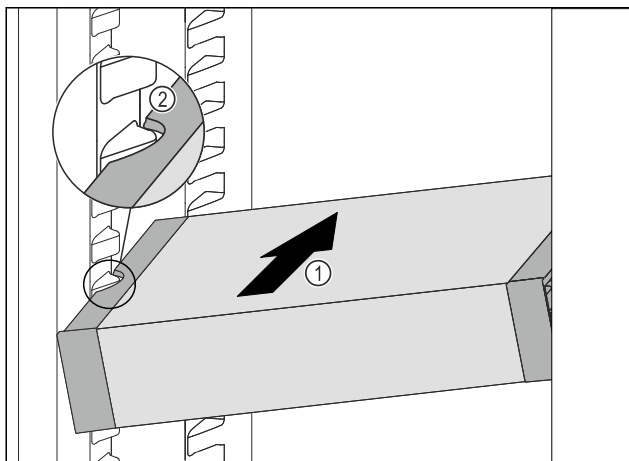

Fig. 107
- ▶ Insert the VarioSafe into the fridge section at an angle *Fig. 107 (1)* until the recesses in the side *Fig. 107 (2)* of the VarioSafe are at the level of the support rib in the fridge section.